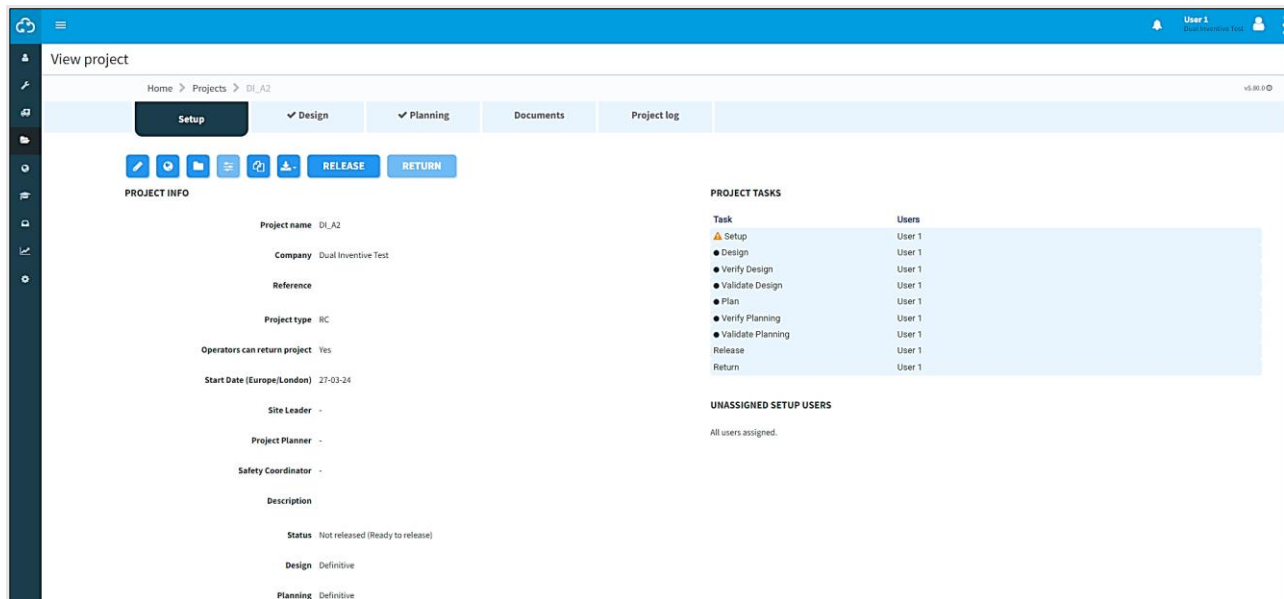

Figure 41 View project
1. Go to the page View project (Figure 41)